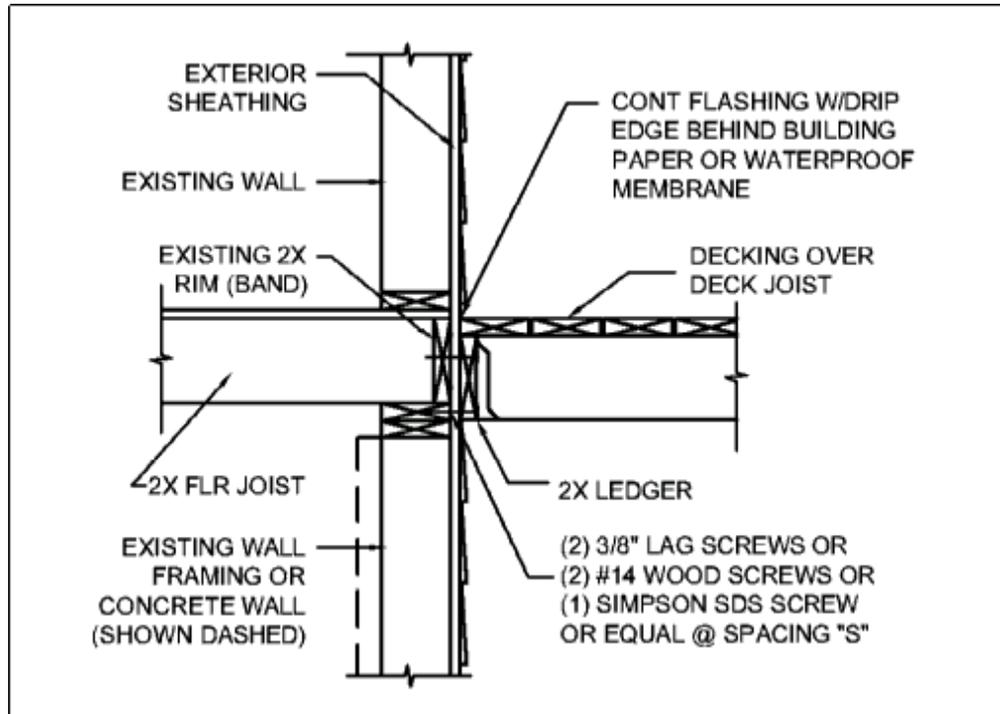
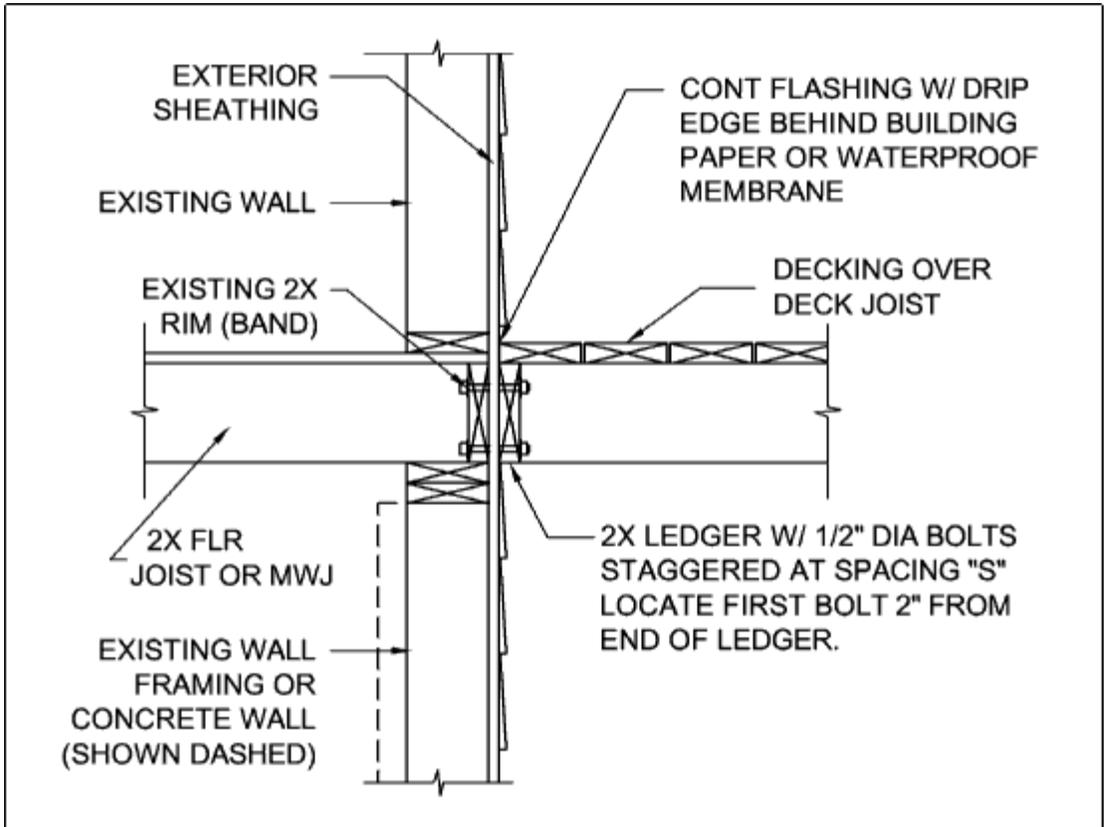
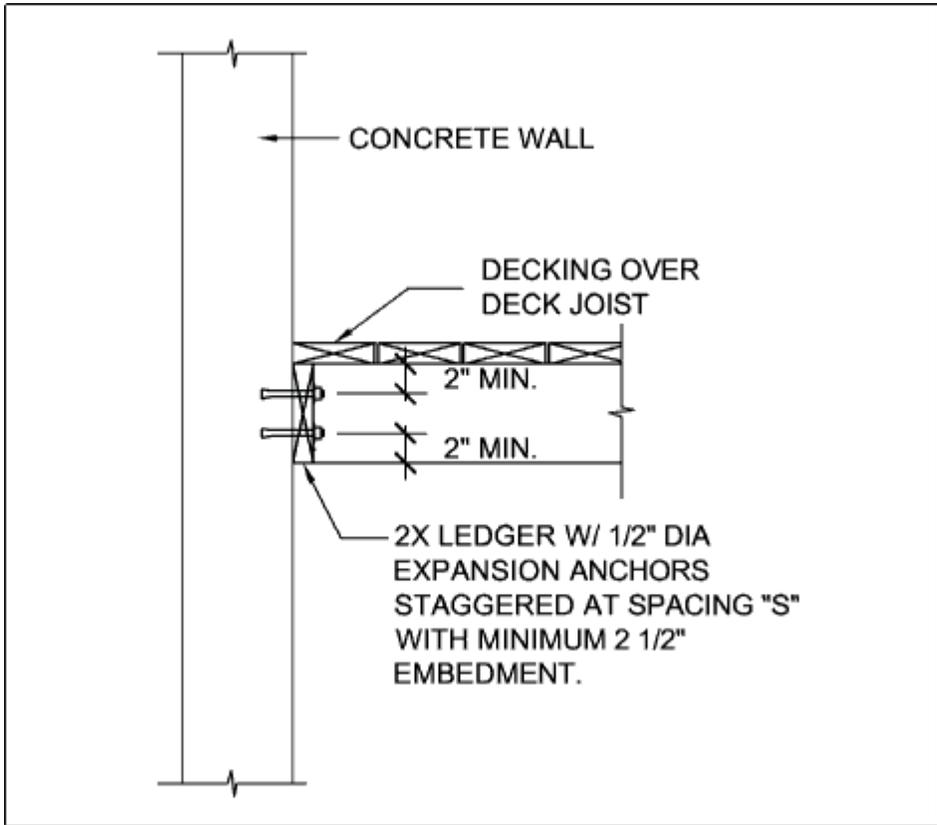
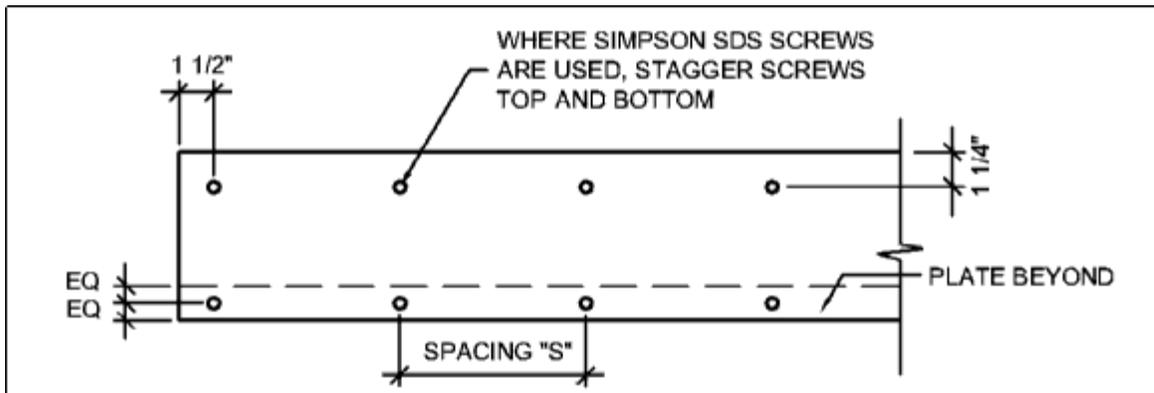

Figure 5 – Attachment of Ledger Board to Band Board with Lag or Wood Screws
Figure 6 – Attachment of Ledger Board to Band Board with Bolts.
Figure 7 – Attachment of Ledger Board to Concrete Wall.
Figure 11 - Ledger Board Fastener Spacing and Clearances
7. Determine if you will be connecting to a band board (rim joist), see Figure 5; a concrete wall, see Figure 6; or a sill plate, see Figure 7. Note: This document cannot be used with masonry walls.
General: There are several methods for attaching a ledger board to the house. How it is attached depends on how the house is constructed and where the ledger will be attached. Ledger board attachments to the existing exterior wall shall be constructed in accordance with Figures 5 through 7. When attachments are made to the existing house band board, it shall be capable of supporting the new deck. If this cannot be verified or conditions at the existing house differ from the details herein, then a free-standing deck is required (See section on **Free-Standing Decks**). You must verify the existing conditions in the field prior to applying for a building permit. Compliance with all the requirements herein is critical to ensure the structural stability of your deck.
(See Figure 11 for Spacing “S”).
(See Figure 11 for Spacing "S").
SEE FIGURE 11 FOR DETAIL
All fastener types shall be spaced per the tables provided with Figures 5 through 7 and installed per Figure 11. All fasteners shall be installed with washers and must be thoroughly tightened. **Adequacy of connections shall be verified by the building inspector.** If a ladder is required to access the ledger board for inspection, one must be provided by the property owner, permit holder, or their representative.
Expansion (Wedge) Anchors: Use expansion anchors when attaching a ledger board to a concrete wall as shown in Figure 7. Bolt diameters of the anchors shall be a minimum of $\frac{1}{2}$ "; in some cases, this may require an anchor size of $\frac{5}{8}$ ". Minimum embedment length shall be $2\frac{1}{2}$ ". Expansion anchors must have washers.